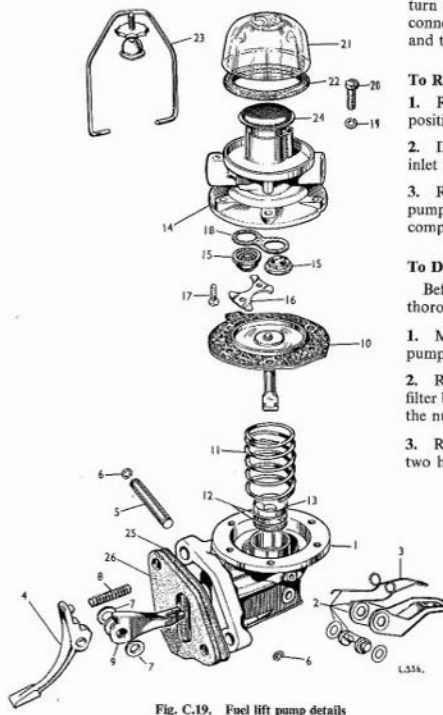

Fig. C.19. Fuel lift pump details
3. From the foregoing description of the operation of the lift pump it will be appreciated that the pressure of fuel at the carburettor is determined by the spring (11, see Fig. C.19), and the further this spring is compressed the greater will be the pressure. All parts of the lift pump and the cylinder block are machined to definite limits. It will, however, be appreciated that circumstances might arise in which all the lower limits exist on one particular engine, with the result that the spring will be compressed on the downward stroke to a greater extent than is normal, resulting in an excess pressure at the carburettor.